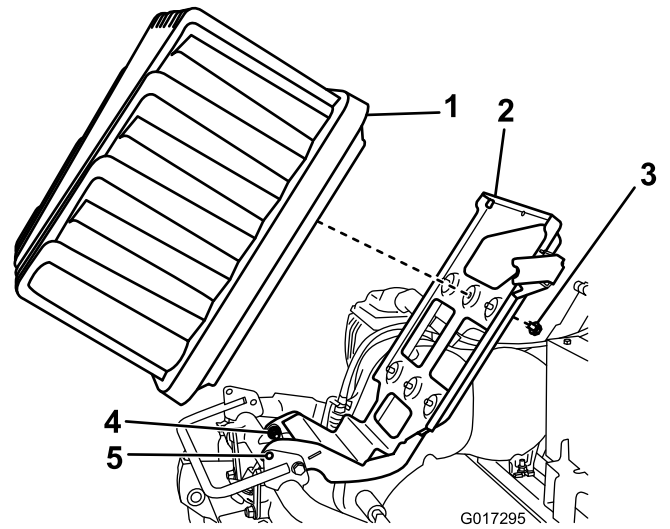

Figure 9
6. Raise the battery platform until the locking holes in the base and frame align (Figure 9).
5. Loosen the 2 pivot bolts/nuts a half turn each (Figure 9).